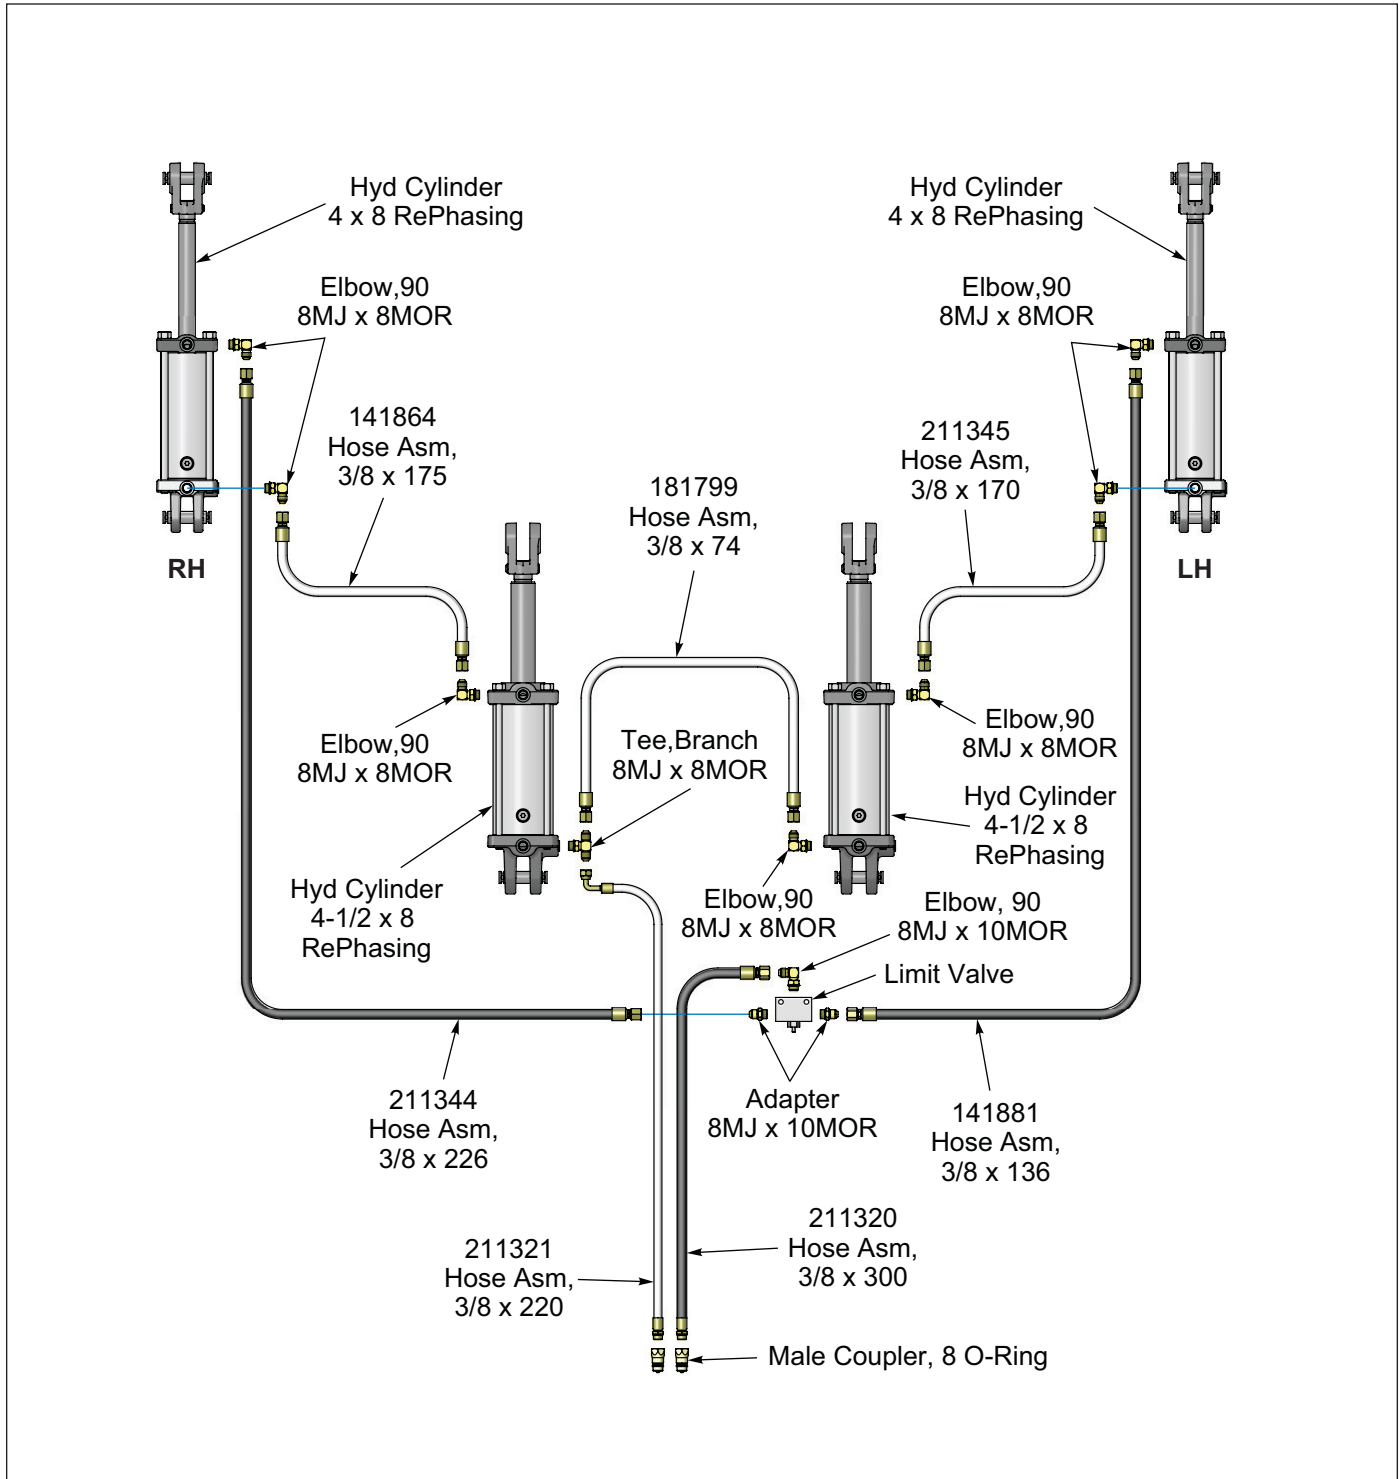

Figure 2-16: Simplified Hydraulic Tooth Control Schematic
1. **Tooth Control Circuit - Black - See Figures 2-16, 2-17 and 2-18.** The Tooth Control Circuit with shanks raised requires approximately 2.3 gallons of hydraulic oil, and with shanks lowered requires 2.6 gallons of hydraulic oil.
1. Install Limit Valve fittings. See Figures 2-16 and 2-18.
3. Install fittings and hoses for Tooth Control Hydraulic Cylinders. See Figures 2-16, 2-17 and 2-18. On each side, wrap both hoses near the hinge pin area with 26 inch hose wrap. Wing hoses can be set aside until time of wing assembly.